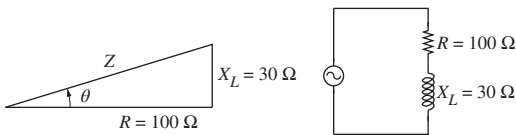

Figure P3.30 A series AC circuit containing R and L .
- 3-30.** The impedance triangle of a resistor (R) and an inductor (L) connected in series in an AC circuit is shown in Fig. P3.30, where $R = 100 \Omega$ is the resistance of the resistor and $X_L = 30 \Omega$ is the inductive reactance of the inductor. Find the impedance Z and the phase angle θ .